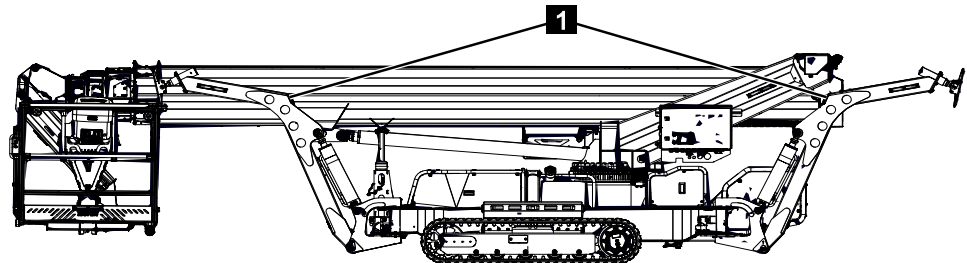

Fig. 58
- The machine must be anchored to the means of transport by lifting accessories connected to the specially provided load blocks (Fig.58/1).